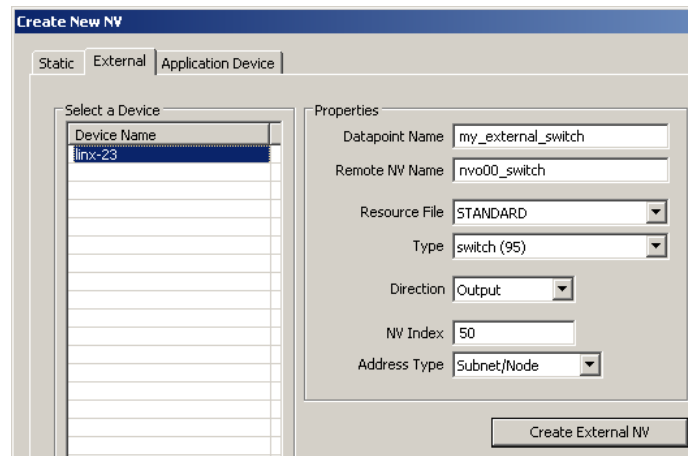

Figure 143: Create a new external NV.
3. Click on the tab **External** as shown in Figure 143.